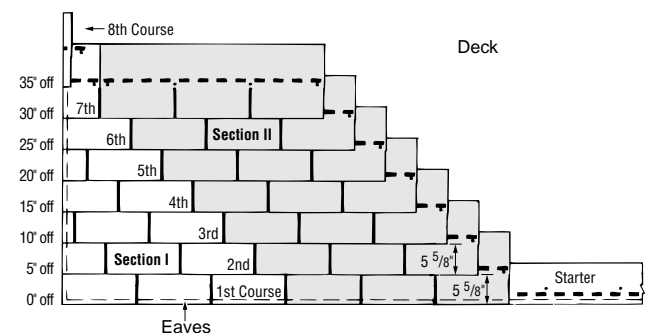

Figure 12-15: Eight-Course, Five-Inch, Stepped-Off Diagonal Method.
3. Continue with full-length starter-course shingles along the eaves. (Figure 12-15).
1. Begin the second course by cutting 5" off the left end of a shingle and applying the $34\frac{3}{8}$ " piece over the first-course shingle, flush with the left edge of the first-course shingle, and exposing the first course $5\frac{5}{8}$ " (Figure 12-15).
3. Install “Section II” as shown in Figure 12-15 using full shingles against the eighth courses in “Section I.” This must be done before continuing with course nine. These “Section II” shingles are to be butted-up against the “Section I” shingles.